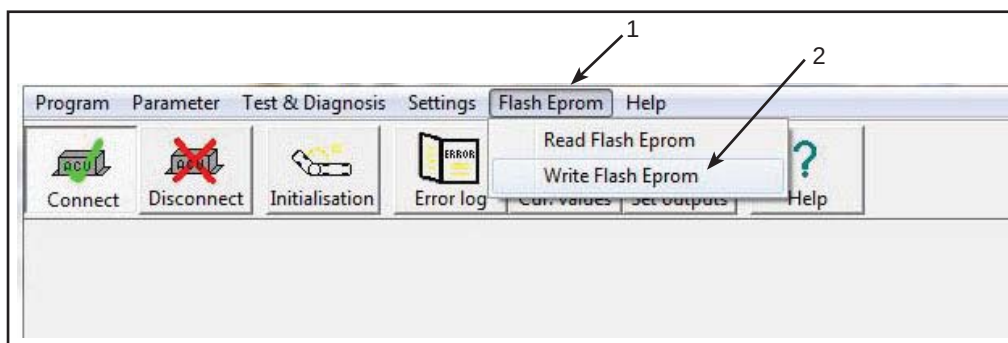

Figure 7 - Hübner Software Top Menu
- 1.12. Select **FLASH EPROM** (1) from the Hübner software top menu. See Figure 7.
- 1.13. Click on **WRITE FLASH EPROM** (2) in the sub-menu. See Figure 7.
If you can't access **WRITE FLASH EPROM** (2), (see Figure 7), contact your Nova Bus service representative.